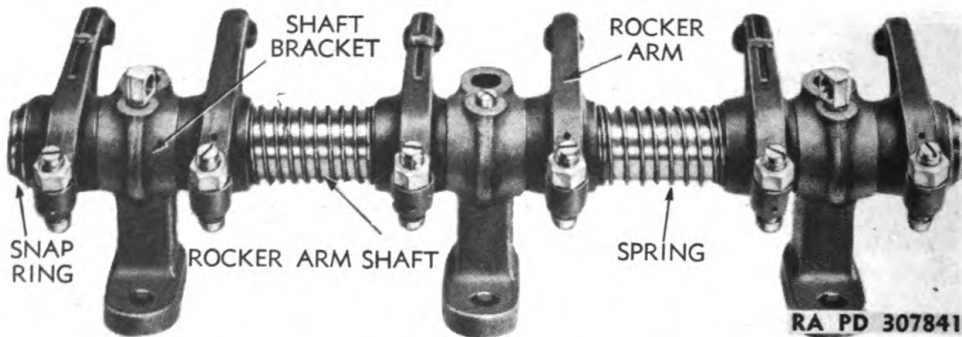

Figure 36 — Rocker Arm Assembly
d. Disassemble Valve Rocker Arm Assembly (fig. 36). Remove snap rings from ends of shafts and slide rocker arms, rocker shaft brackets, and springs off shaft.